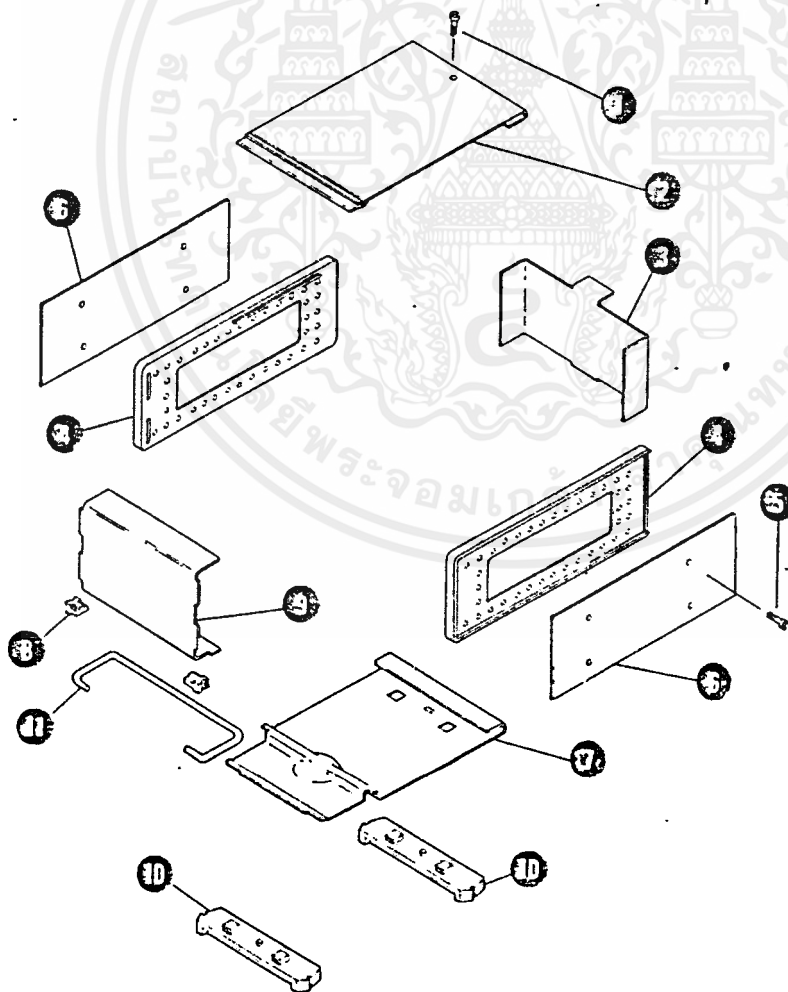
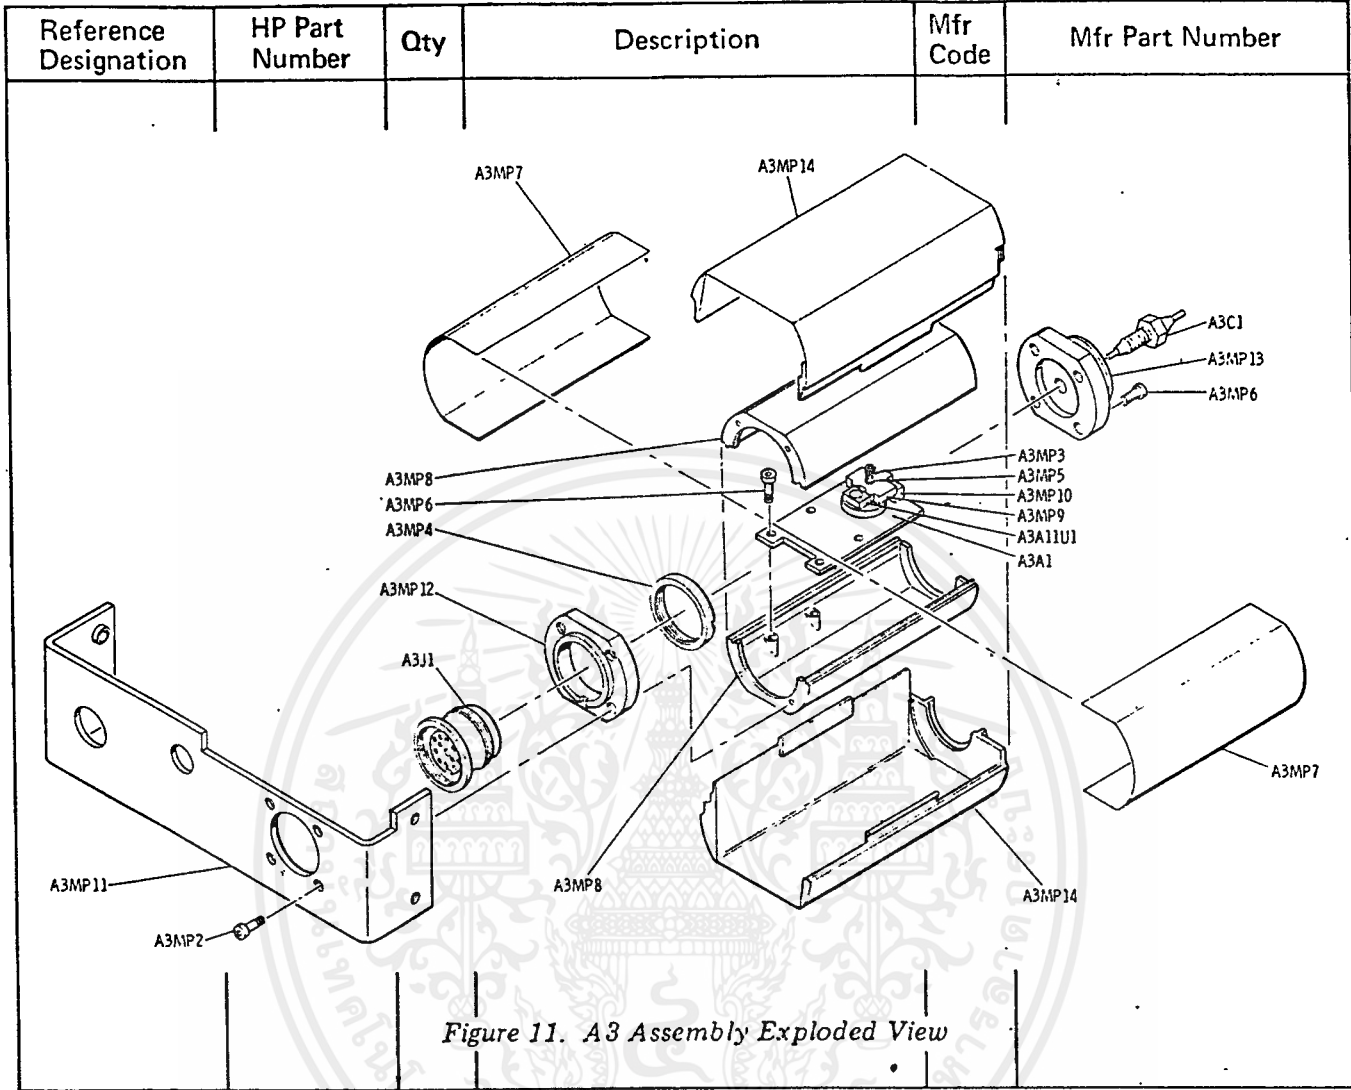

Figure 10. Cabinet Parts Exploded View
Figure 11. A3 Assembly Exploded View
4. Disassembly of A3 Sampling Gate Assembly. For steps 1 through 3 see Figure 11. Refer to Figure 10 steps 4 through 8.